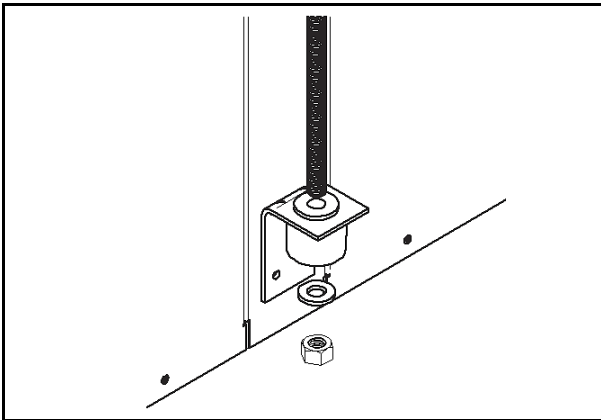

Fig. 10 Threaded Rod
3. Install rubber grommet onto the brackets as shown in Fig. 10.
4. Hang the unit and assemble the field-provided threaded rod, nuts, and washers on to the brackets as shown in Fig. 10.